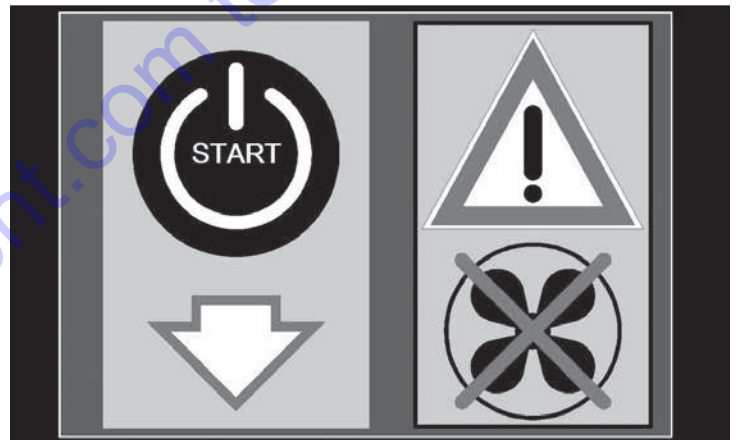

Figure 42
1. The heater unit will automatically shut down and the control module will display the fault similar to the one shown in Figure 42.